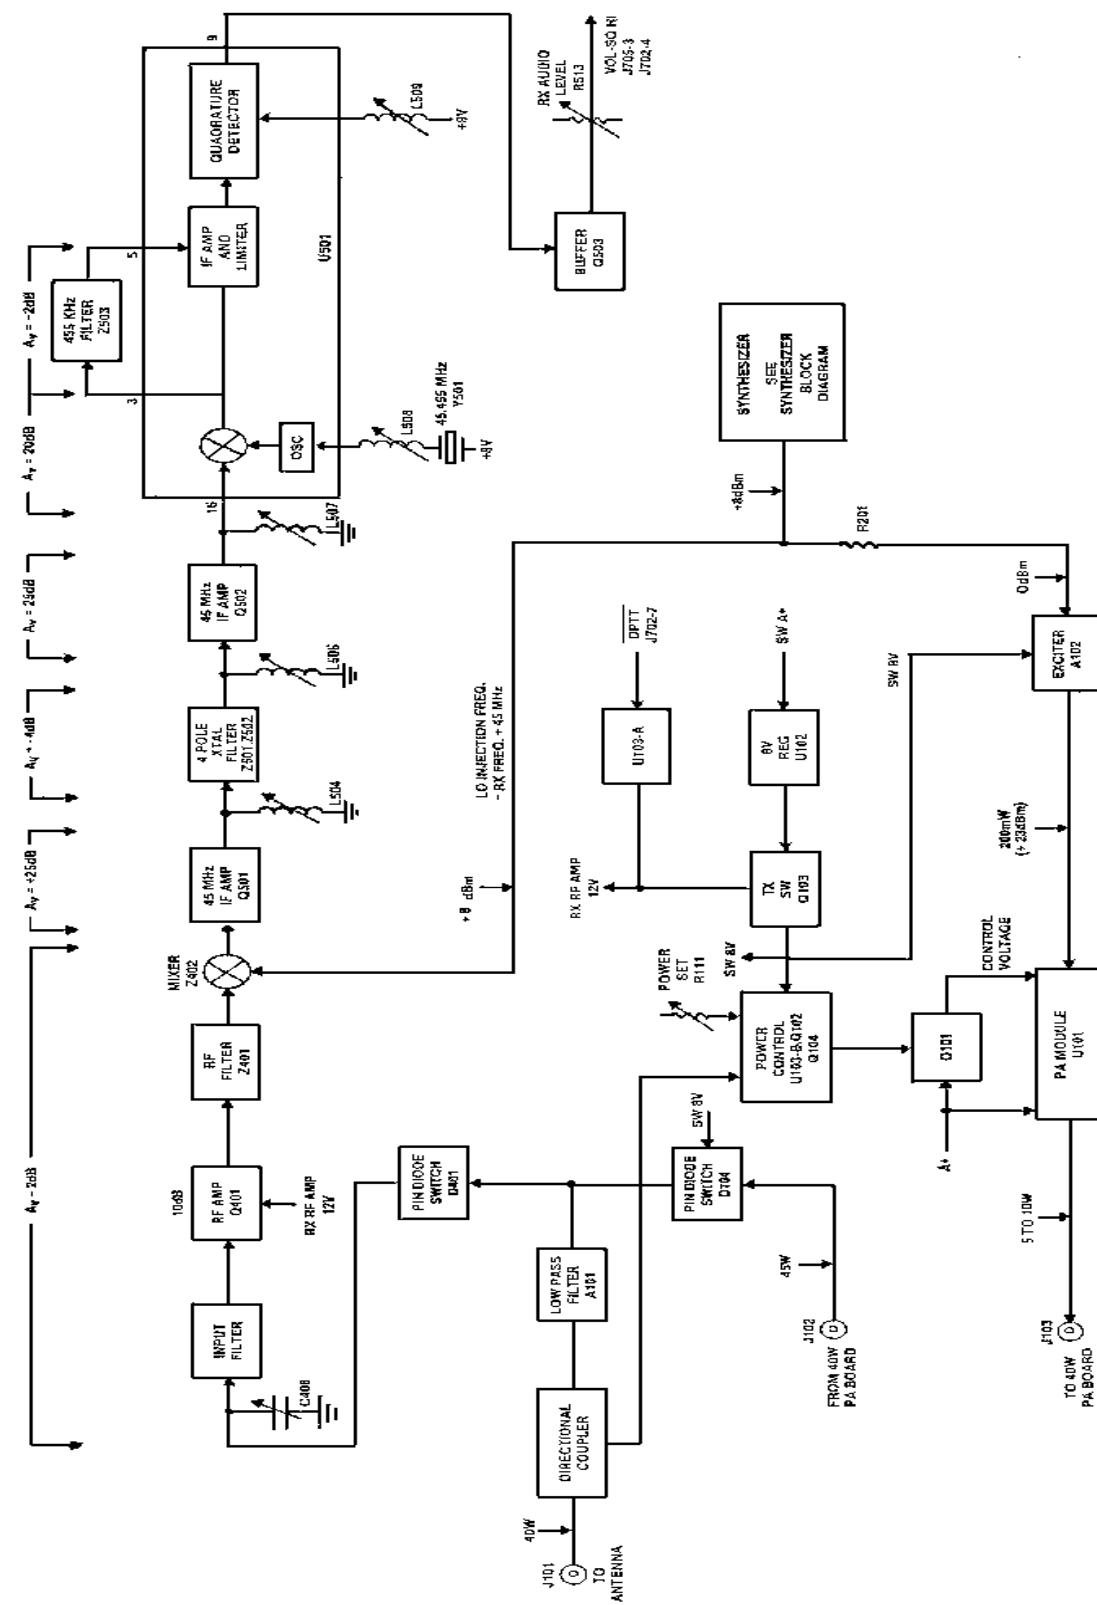
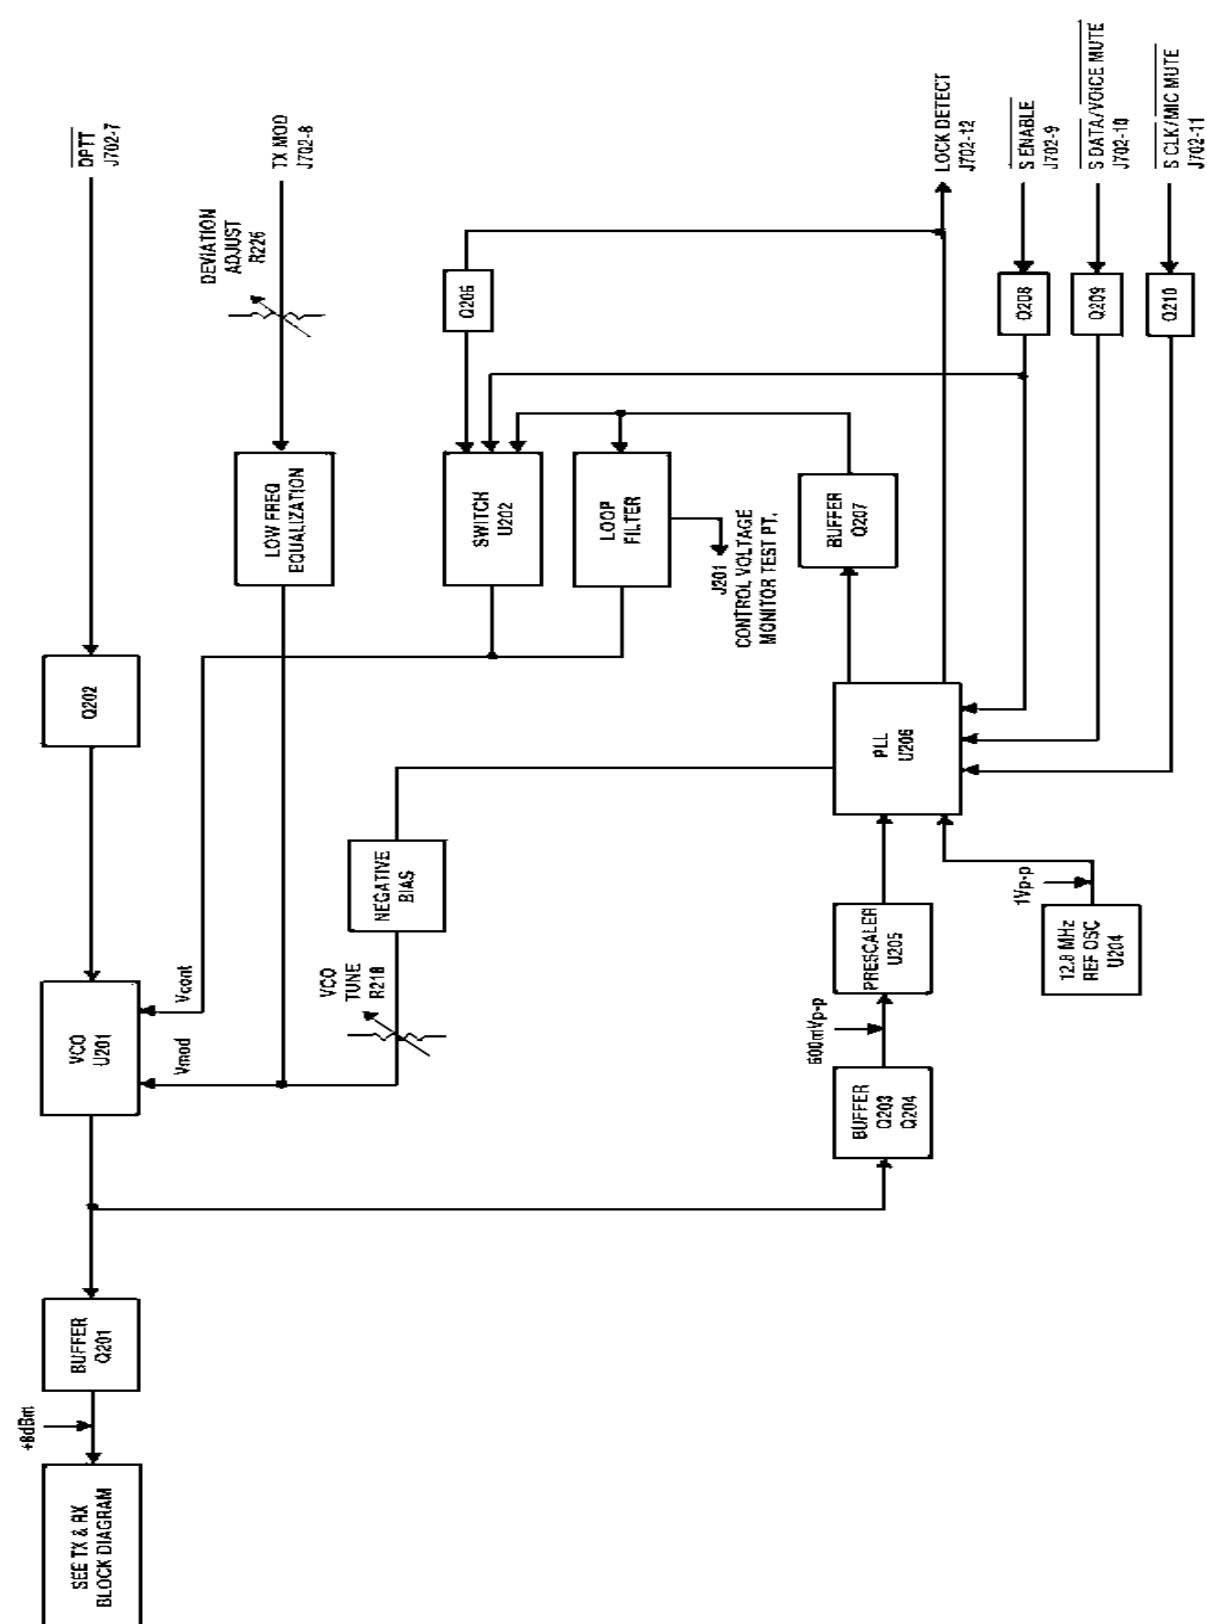

Figure 1 - TX And RX Block Diagram
Figure 2 - Frequency Synthesizer Block Diagram
The RF Board is mounted in the bottom of the frame assembly. Refer to the Combination Manual for the mechanical layout of the radio. Figure 1 provides a block diagram of the receive and transmit circuits. Figure 2 provides a block diagram of the synthesizer.
Figure 1 shows the synthesizer driving the receive mixer at +10 dBm and is attenuated by resistor R202 to +3 dBm for driving the exciter input. Exciter module A102 operates from a switched 8 volt supply. A different exciter module is required for each of the three band splits. No tuning is required. Both input and output ports operate at 50 ohms impedance. The exciter module provides typically 20 dB of gain and 200 mW of output power to drive the power amplifier module.
Most transmit circuit problems can be isolated by checking the TX power gains shown in Figure 1- RX and TX Block Diagram. The 40 watt PA Board may be bypassed by placing a jumper cable between J103 and J102 on the RF Board. The PA module U101 is capable of producing 10 watt output
• Poor SINAD	<ol style="list-style-type: none"> 1. Consult Figure 1 - RX and TX Block Diagram for RX stage gains and troubleshoot. NOTE: Use a high impedance RF probe when measuring gain at TP401. A 50-ohm probe may be used if C415 is removed. DO NOT adjust Z401 or Z402 without sweep equipment or the 20 MHz sensitivity bandwidth will be sharply reduced. 2. Input cable. 3. PIN Diode switch is shorted.